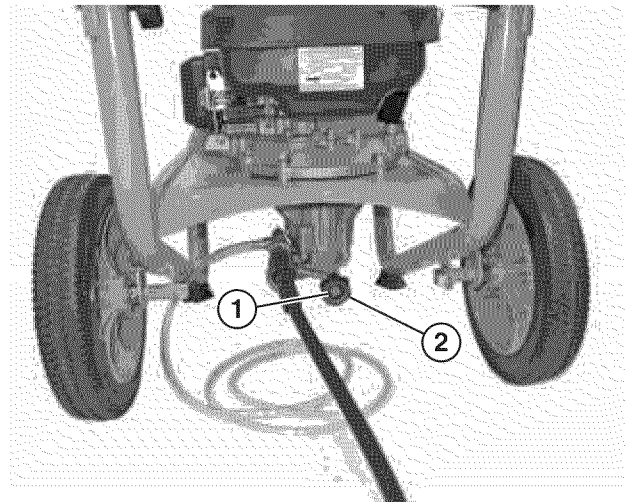

Figure 17 – Water Connection
2. Inspect the water inlet screen to make sure it is in place and free of debris (*see Figure 17*). Do not operate the pressure washer with a missing or damaged inlet screen.
3. Use the shortest hose possible to complete the job at hand. Using a longer hose may affect performance. Connect a garden hose that is not longer than 50 feet (15.2 m) to the water inlet fitting (*see Figure 17*).